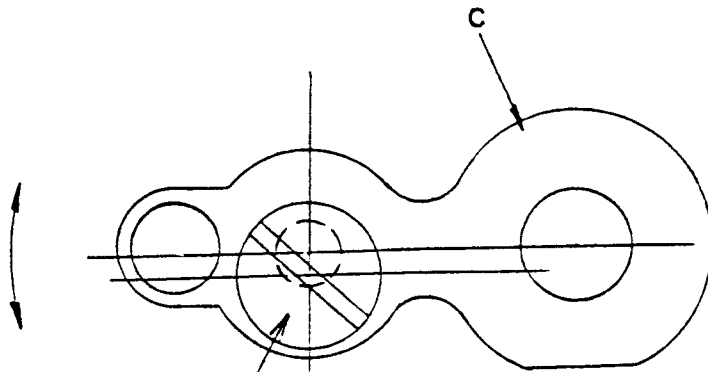

Fig. 3-1
There should be no vertical looseness, yet the needle bar vibrating bracket (C) must swing freely. (Fig. 3-1).
When reinserting the needle bar vibrating bracket eccentric hinge stud (E), make sure the eccentric part (the end with the smaller diameter) is toward the right of the machine. (See Fig. 3-1).